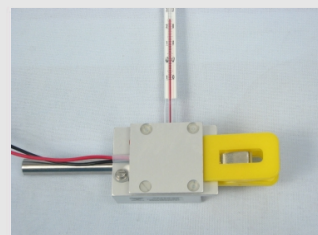

Figure 5
5. Insert one of the two thermometers into this opening. Make sure that the tip of the thermometer touches the aluminium block (Fig. 5).